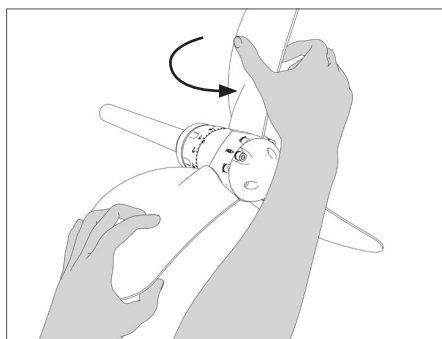

FIG. 22 Bring the blades to the feathering position
- Bring the blades to the feathering position (**Fig. 22 - 23**).